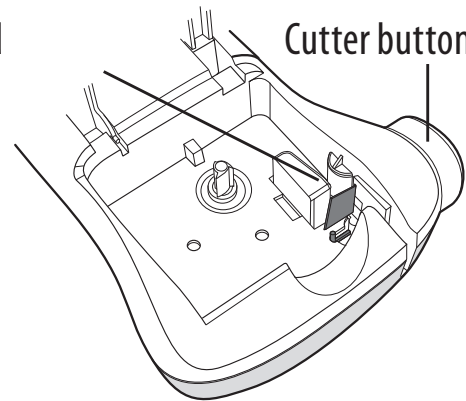

Figure 6
2. Press and hold down the cutter lever to expose the cutter blade. See Figure 6.
3. Gently wipe the padded side of the tool across the print head. See Figure 6.